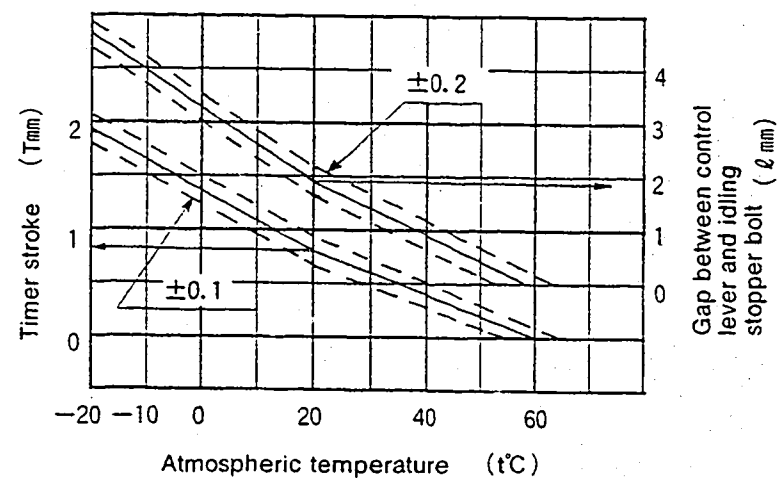

Fig. 2
1. Calculate the timer stroke from Fig. 2 according to the atmospheric temperature at the time of adjustment.
1. Calculate the block gauge dimension $\ell \pm 0.05\text{mm}$ from Fig. 2 according to the atmospheric temperature at the time of adjustment.
Formula for calculating Fig. 2